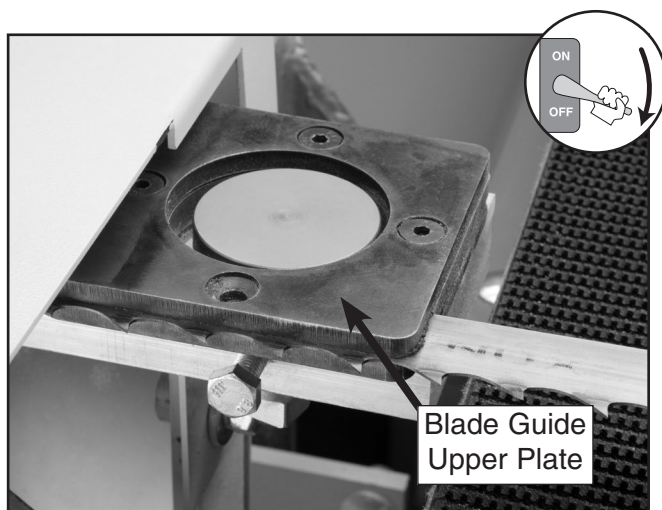

Figure 25. Blade guide upper plate.
2. Remove the upper plate shown in **Figure 25**.